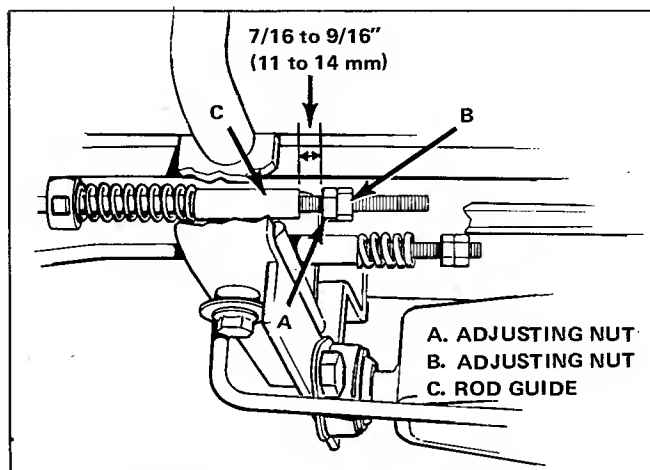

Figure 33. Clutch Rod Adjustment
3. Measure the gap between the adjusting nut (item A, figure 33) and the rodguide (item C). The gap should be between 7/16 and 9/16 inch (11 to 14 mm) with the idler pulley pressed firmly on the belt. If it is not, adjust as follows: